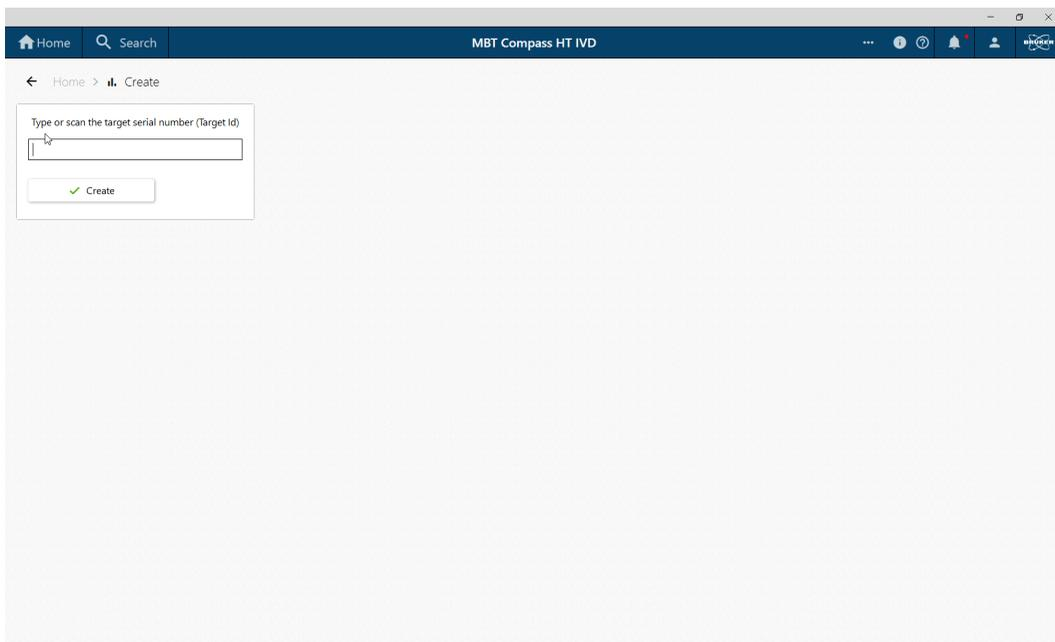

Figure 6-6 Create new run view
1. On the MBT Compass HT IVD **Home view**, press the **Create a new ID run** button . The **Create new run** view is displayed, see figure 6-6.